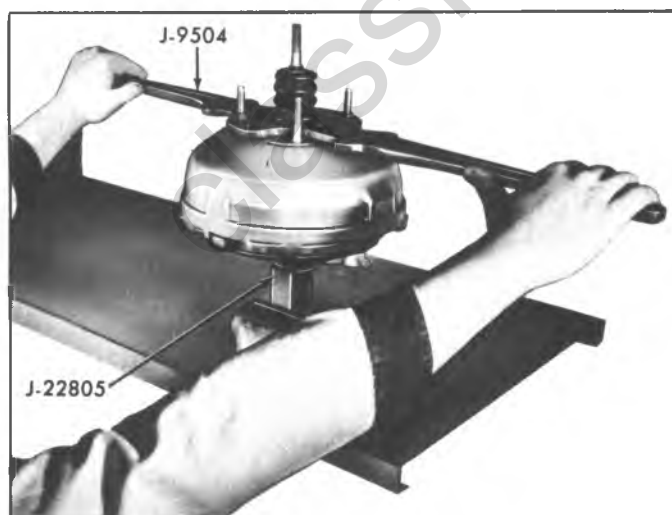

Fig. 2B--Unlocking Front and Rear Housings
- Attach base of Holding Fixture J-22805 to front housing with nuts and washers and draw down tight to eliminate damage to studs. Clamp base in a bench vise with the power section up (fig. 2B).
- Straight Mounting Bracket (Fig. 2B)** - Place Spanner Wrench J-9504 over studs on rear housing and attach with nuts and washers. Draw nuts down tight to eliminate bending or damaging of studs.